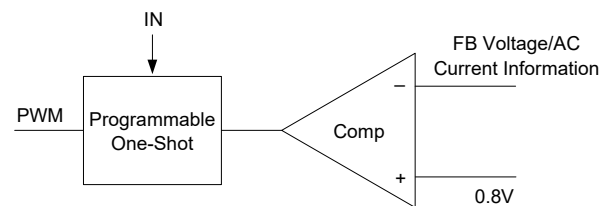

Figure 2. Simplified Control Schematic of AOZ2151QI-01
The control algorithm of AOZ2151QI-01 is constant-on-time PWM control with input feed-forward. The simplified control schematic is shown in Figure 2. The high-side switch on-time is determined solely by a one-shot whose pulse width is inversely proportional to input voltage (IN). The one-shot is triggered when the internal 0.8V is higher than the combined information of FB voltage and the AC current information of inductor, which is processed and obtained through the sensed lower-side MOSFET current once it turns-on. The added AC current information can help the stability of constant-on time control even with pure ceramic output capacitors, which have very low ESR. The AC current information has no DC offset, which is fundamentally different from other  $V^2$  constant-on time control schemes.